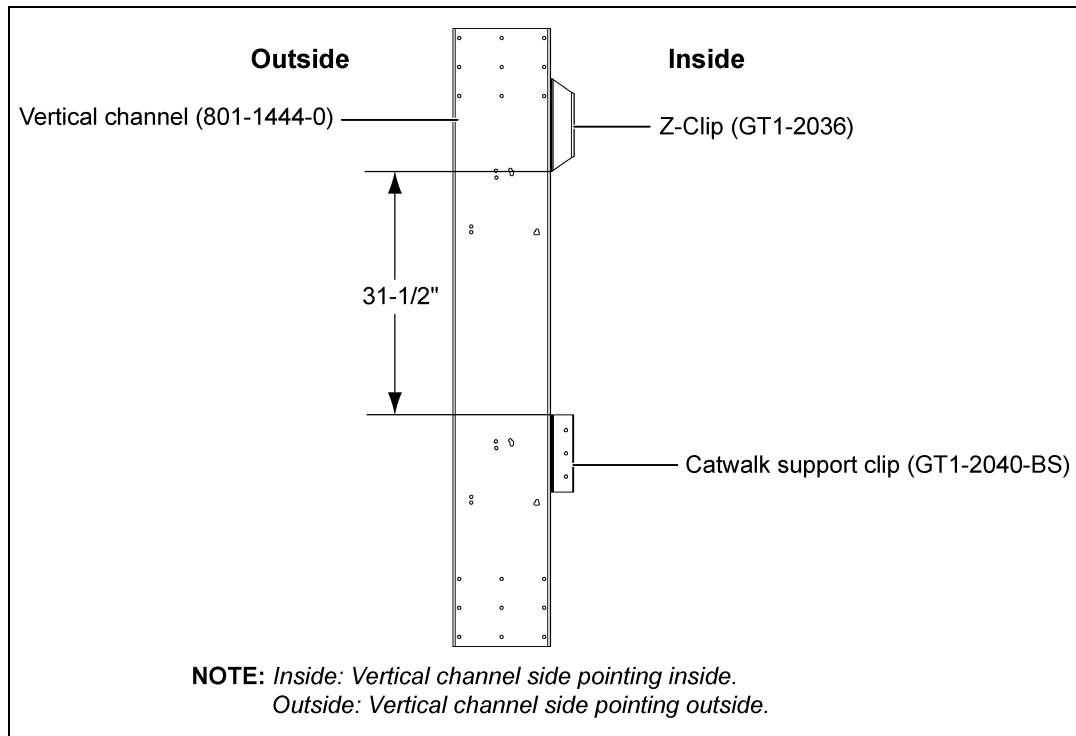

Figure 5C
2. The distance between the Z-clip and support clip for 23'-4" inside catwalk is 31-1/2". *(See Figure 5C.)*